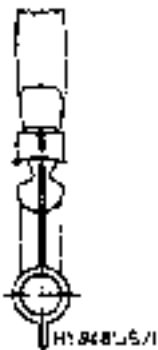

Figure 7
- Burner flames should be blue and there should be no lifting of flames from burner ports, figure 7.